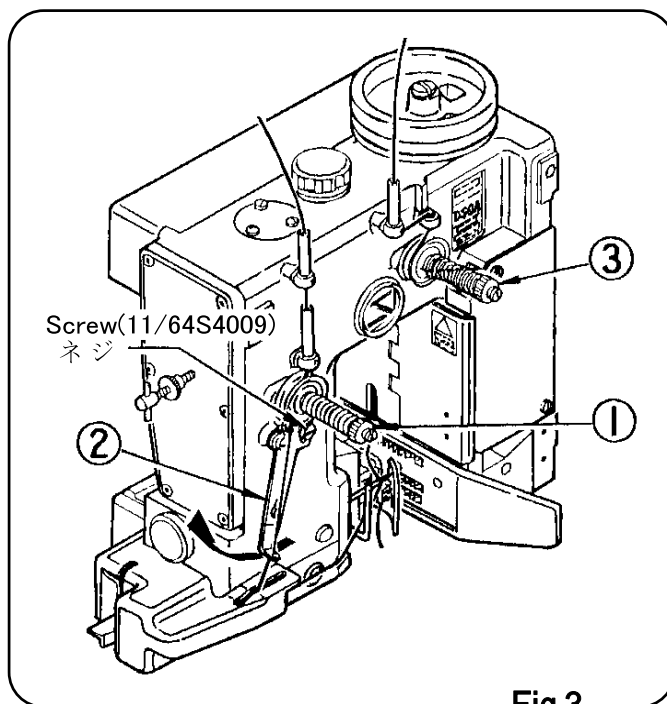

Fig.3
1. Thread Tension (Figure 3)
Proper thread tension may slightly vary with the type of bag and thread. The norm is given below. Thread tension regulators are mounted so that the tension is uniform for stitch length. To adjust the tightness of seam, adjust , in Figure 3.
1. 糸調子の調整 (Fig.3 参照)
糸調子<Fig.3- >の調整は袋と糸の種類で多少の違いがありますが、原則として次の通りに調整してください。